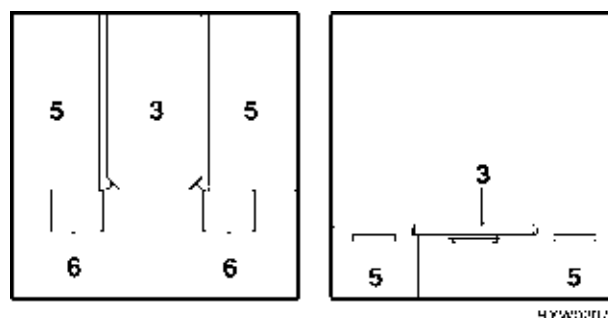

Fig. 71 During conversion
- Pull out the bedding box extension (Fig. 71,6).
- Lay the table-top (Fig. 71,3) between the two bedding boxes (Fig. 71,5).